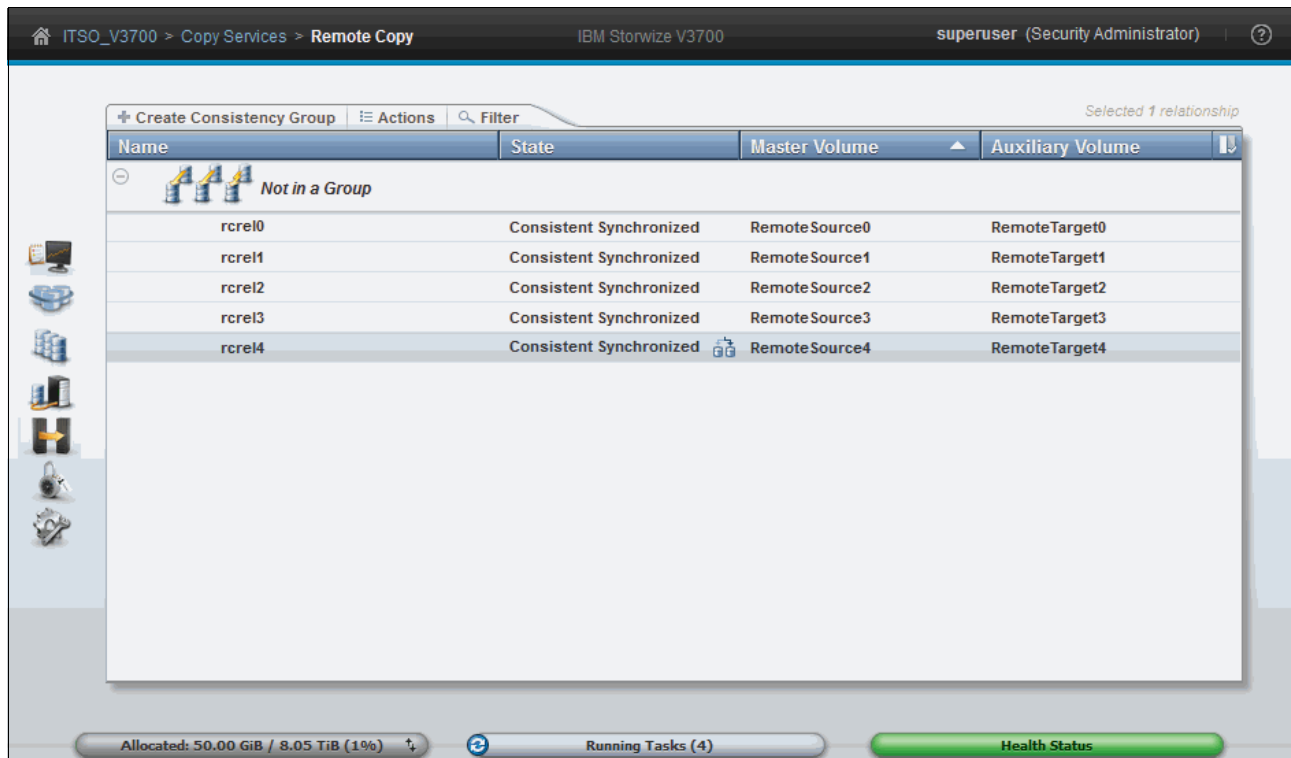

Figure 10-116 Switch icon on the state of the relationship
3. After the switch completes, your Remote Copy relationship is tagged (as shown in Figure 10-116), and shows you that the primary volume in this relationship was changed to the auxiliary.